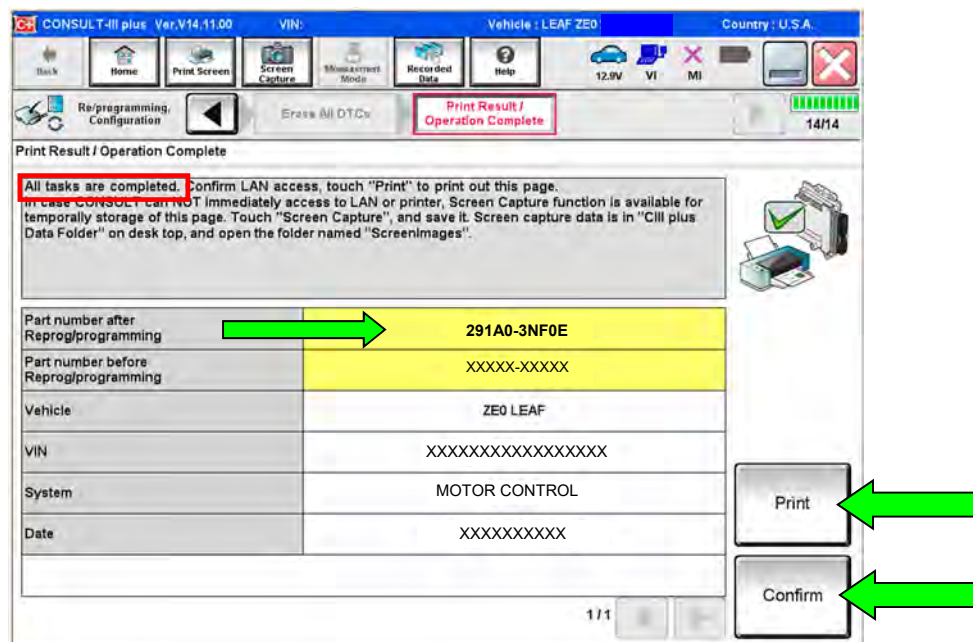

Figure 37
50. Print a copy of this screen (Figure 37) and attach it to the repair order.